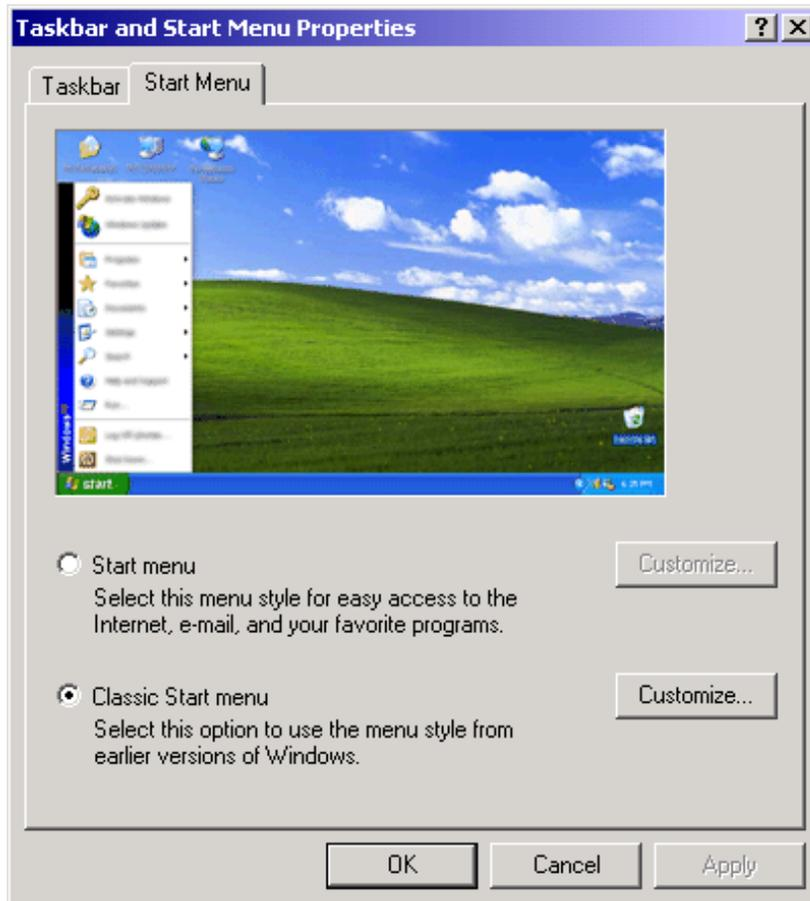

FIGURE 124. Classic Start menu
8. Select the Classic Start menu as shown in Figure 124.